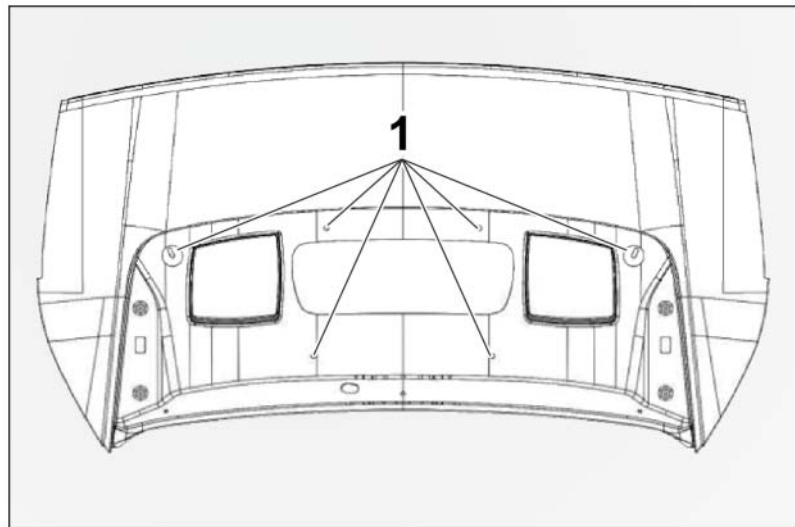

Fig. 70 (sample illustration)
41. – Attach the supplied spacers for the upper air intake to the fastening points ⇒ Fig. 70 (sample illustration)-1- shown. **Note:** The spacers should be glued on with the standard Porsche windshield adhesive. Please order the primer and 2K pane adhesive set mentioned in the parts list at the beginning of the document. They will then adhere to the rear cover, but their position can still be shifted.